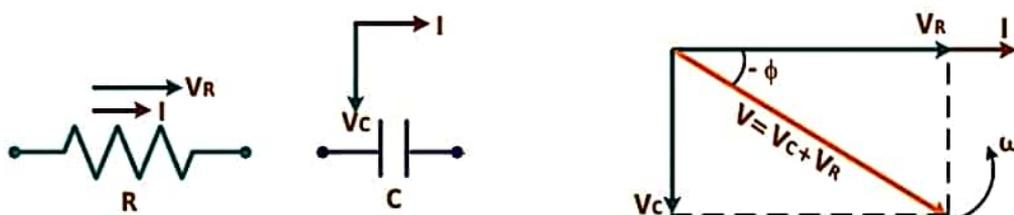

Figure 2.30 Phasor Diagram of Series R-C Circuit
- So, to draw the vector diagram, first I taken as the reference. This is shown in the Fig. 2.30. Next V_R drawn in phase with I . Next V_C is drawn 90° lagging the I . The supply voltage V is then phasor Addition of V_R and V_C .